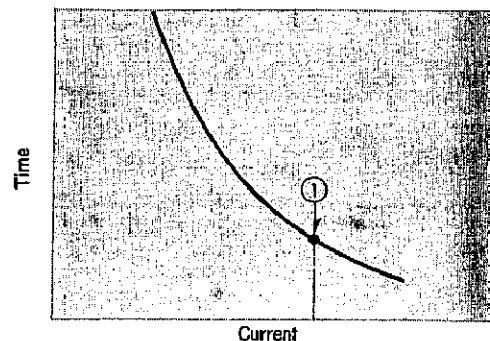

Figure 4
The inverse time characteristic governs how the circuit protective device will protect downstream devices. In order that withstand, closing and interrupting ratings of the downstream transfer switch are not exceeded, the upstream device must be selected accordingly. Figure 4 illustrates the point ① where the current is equal to the available short circuit at the point of switch application.